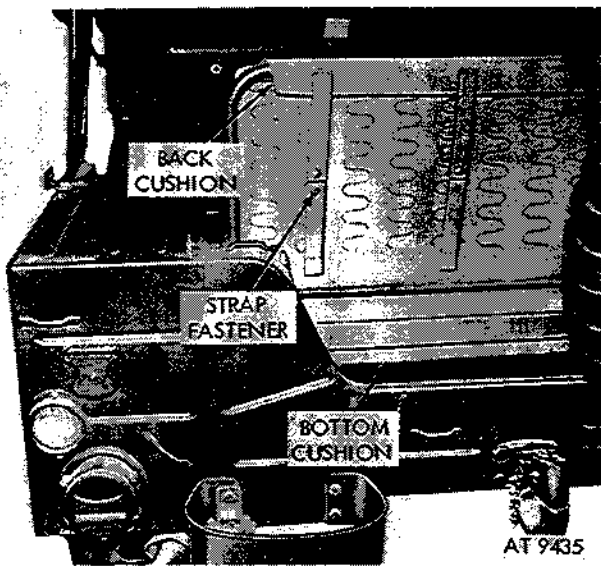

Figure 2-404. Rear seat (M151, M151A1, and M151A2).
b. Rear Seat Cushion. To remove the rear seat cushion on the M151, M151A1, and M151A2, unfasten the seat strap fasteners and remove the cushion from the tube frame (fig. 2-404). To remove cushions on M151A1C and M825 remove two screws holding cushion to frame. The M718 and M718A1 is removed by unlocking the turn button fasteners.